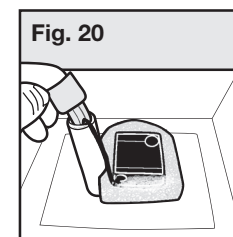

Fig. 20
- Remove the extra slack from the electrical power cord and insert the rubber cap into the raised post. Make sure the cord channel on the rubber cap is aligned with the electrical power cord, then insert your finger into the rubber cap and push all the way down (**Fig. 20**).